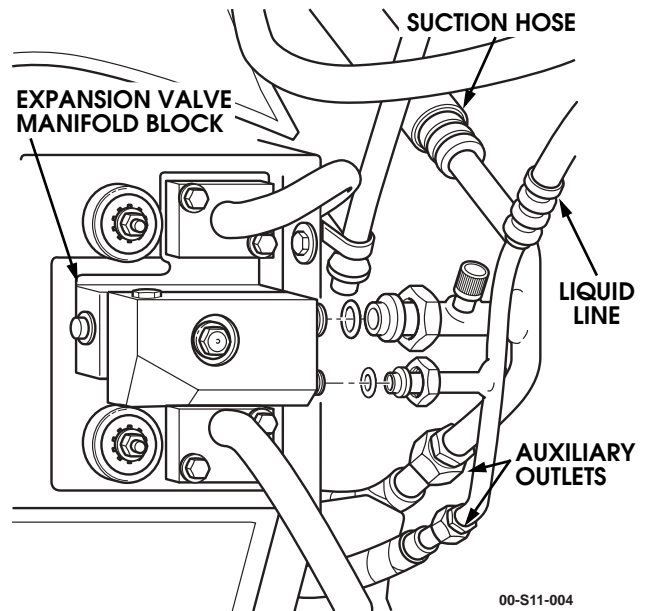

Figure 11-11: Suction Manifold Hose Removal
4. Disconnect the suction hose from the expansion valve manifold, discard the O-ring (Figure 11-11:).
4. Remove hose and O-ring from expansion valve manifold block. Discard O-ring (Figure 11-11)
1. Lubricate two O-rings with PAG oil and position on hose (Figure 11-11).